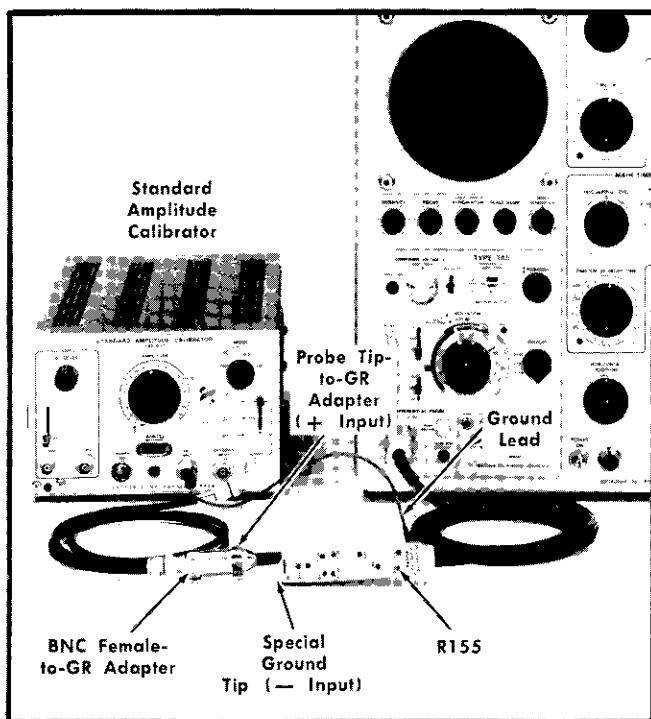

Fig. 6-7. Equipment setup for gain adjustment, step 4.
- The preliminary control settings apply. The equipment setup and adjustment location appear in Fig. 6-7.
i. ADJUST—Gain (R155, Fig. 6-7) for exactly 5 divisions (with the Type 1A5) or 4 divisions (with the Amplifier For P6046) amplitude between centers of the two traces. Adjust the vertical POSITION control as necessary for convenient measurement.